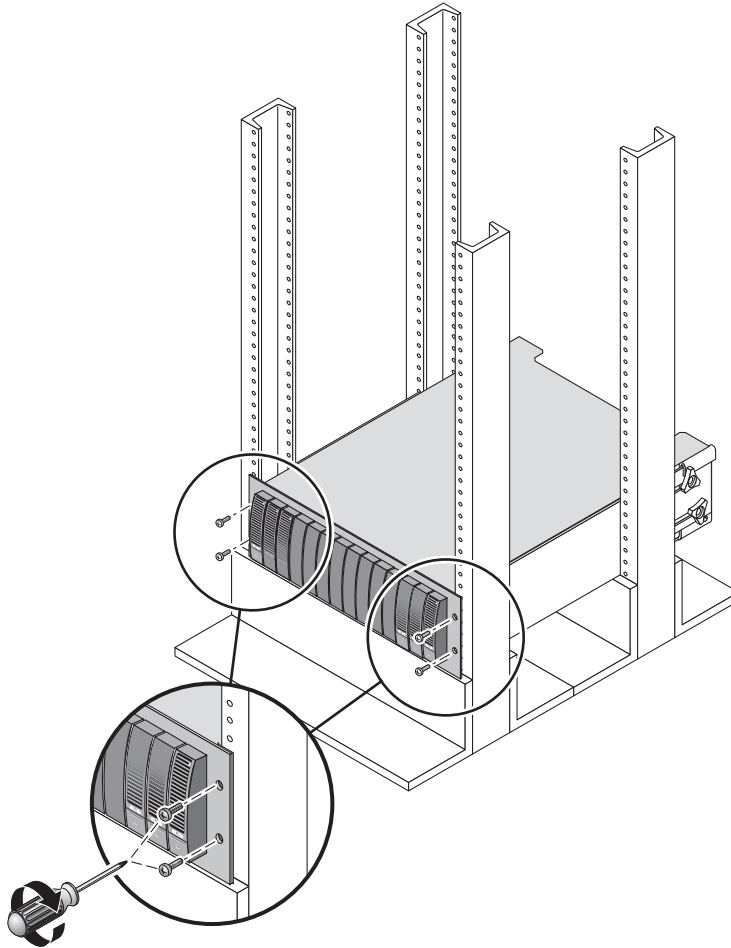

FIGURE 2-34 Securing the Tray to the Front of the Rack
4. Use the #2 Phillips screwdriver to insert and tighten four 10-32 screws (two per side) to secure the tray to the front of the rack (FIGURE 2-34).